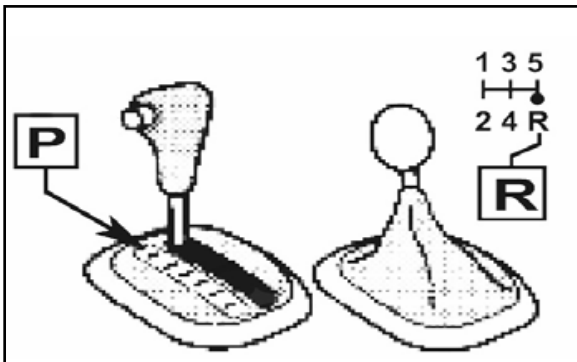

Figure 2
- (b) Put transmission in "P" (automatic) or reverse (manual). See Figure 2.